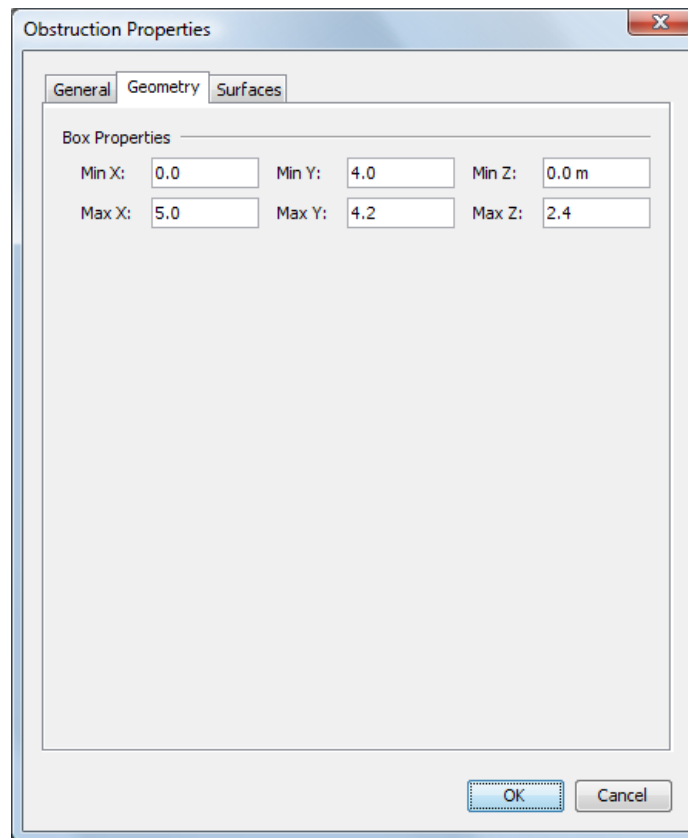

Figure 5.6. Creating the wall
3. Click on the **Geometry** tab, Figure 5.6.